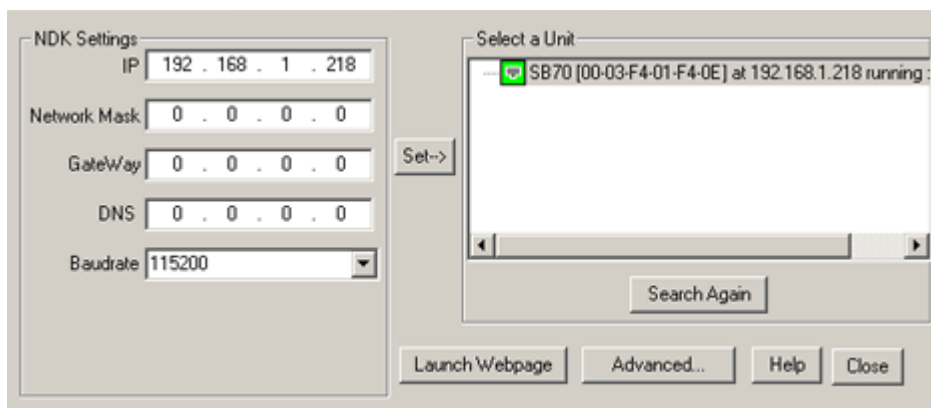

FIGURE 3-2. PS FIND SCREEN
The PSfind utility is supplied on the CD that comes with the unit, or can be downloaded from the Kepco web site at www.kepcopower.com/drivers. This utility finds all operational Kepco power supplies connected to the LAN and then shows the pertinent addresses of the models found. To run the utility from your PC go to \utilities on the CD. This directory only contains one file psfind.exe. Copy the file to your computer or run it directly from the CD itself. A separate window opens as shown on Figure 3-2.
- To set a static IP address, enter the static address in the IP ADDRESS field and the Mask address in the Network Mask field (Figure 3-3 shows a the IP Address, Network Mask and Gateway changed from that shown in Figure 3-2), then highlight the desired unit and click the Set button. There will be a short pause while parameters are updated. If you do not see your device in the "Select a Unit" window, make sure it is turned on and connected to the network, then click the Search Again button.